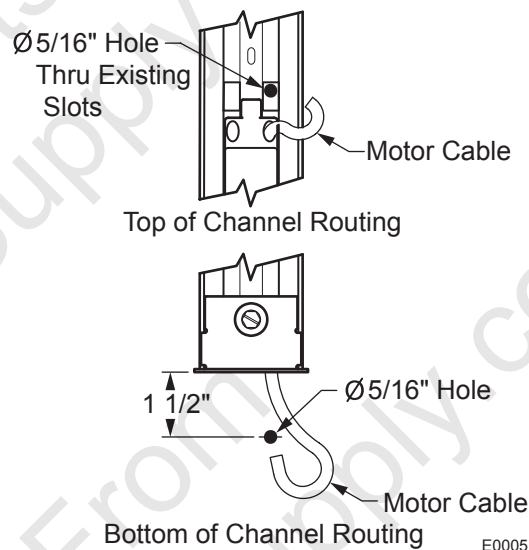

Figure 6. Cable Pass Thru Drill Pattern.
- 2.1 (Refer to Figure 6) Drill a 5/16" hole through the vehicle wall for the motor cable.